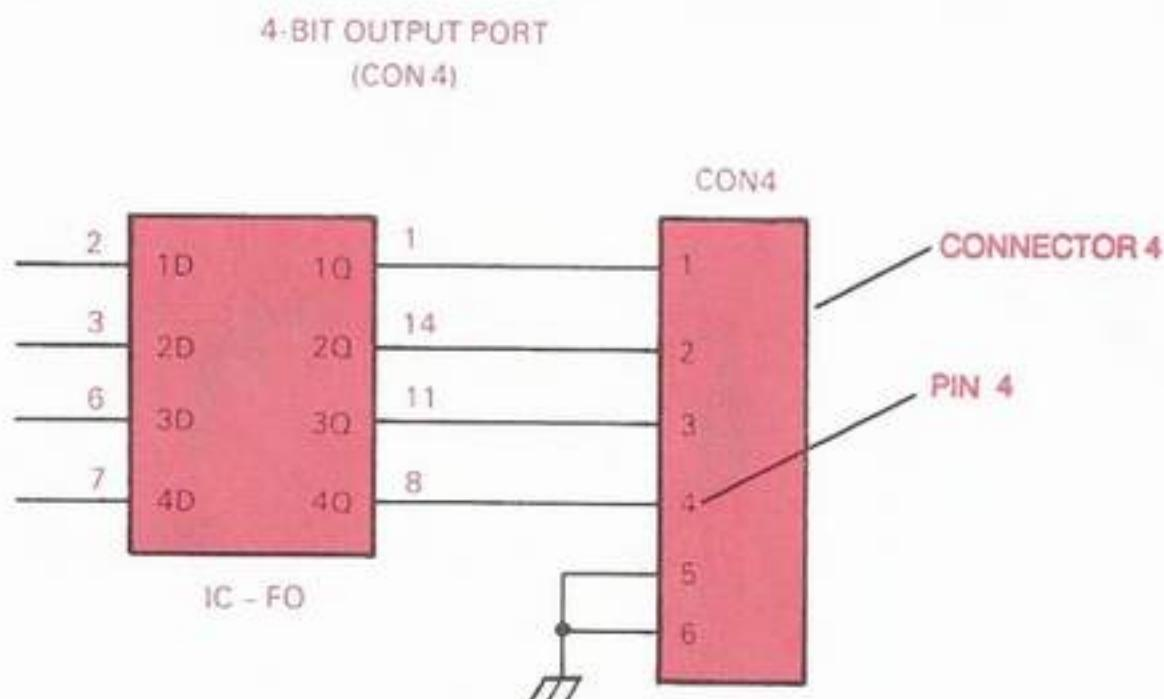

Fig. 88: The 4-bit Output-Port Connector 4
- c. Locate **Connector 4** on the PCB (see Fig. 88) and insert the 6-pin connector plug (wired) onto it, making sure none of the six wires are touching each other.
- ____ c. Locate **Connector 4** on the PCB (see Fig. 88) and Insert the 6-pin connector plug (wired) onto it, making sure that none of the six wires are touching each other.